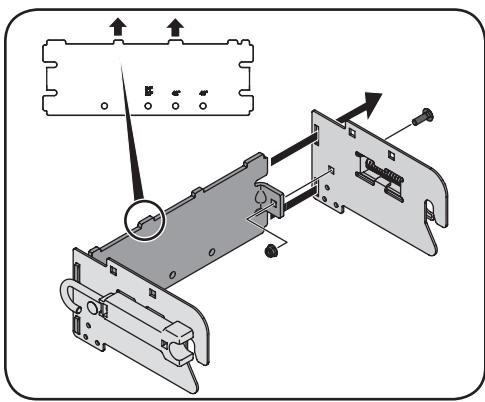

Figure 2-1
1. Insert the ends of the rear support bracket through the narrow slots at the rear of each side support bracket. See Figure 2-1.
2. Secure folded tabs on rear support bracket to side support brackets with a carriage screw (ref. #9) and nylon lock nut (ref. #11). See Figure 2-1.
**NOTE:** The latches on the side support brackets must be positioned with the opening facing down on the outside of the bracket and the tabs on the rear support bracket must be facing up. See inset in Figure 2-1.